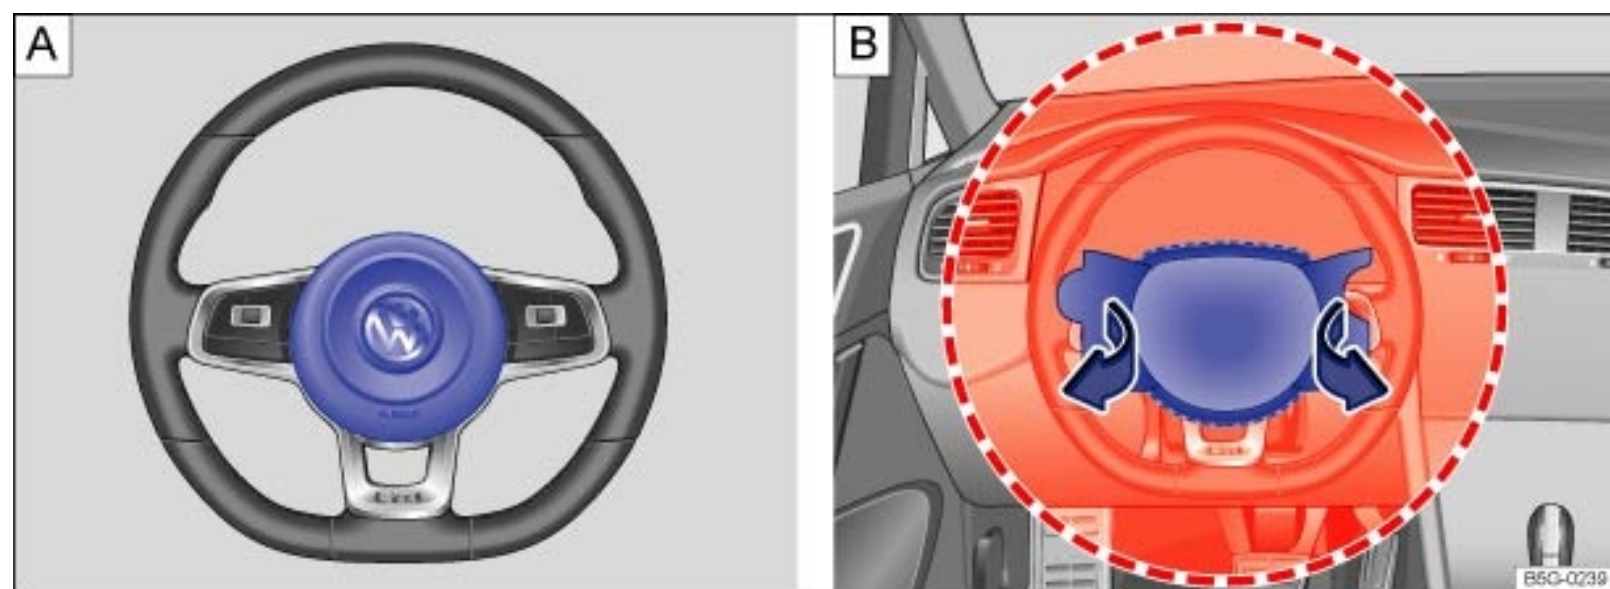
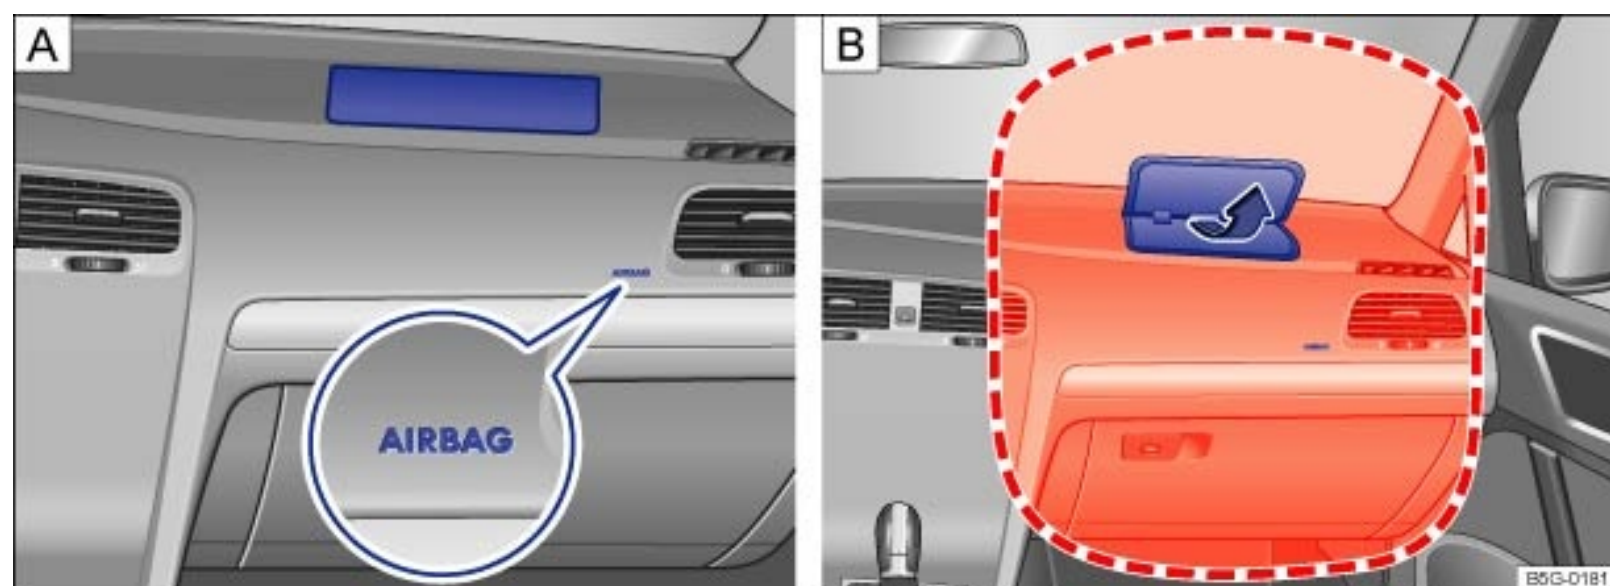

Fig. 68 Location and deployment zone of the driver front airbag.
Fig. 69 Location and deployment zone of the front passenger front airbag.
Standard (CMVSS) 208 applicable at the time your vehicle was manufactured. The airbag for the driver is in the steering wheel hub → Fig. 68  and the airbag for the front passenger is in the instrument panel → Fig. 69 . The general location of the airbags is marked AIRBAG.
The areas marked in red (dotted lines) → Fig. 68  and → Fig. 69  indicate the airbag deployment zone. Never place or attach accessories or other objects (such as cup holders, telephone brackets, note pads, navigation systems, large, heavy or bulky objects) on the doors, on the windshield, over or near the area marked in red (dotted lines).
- Fig. 68 and → Fig. 69 Such objects could cause serious